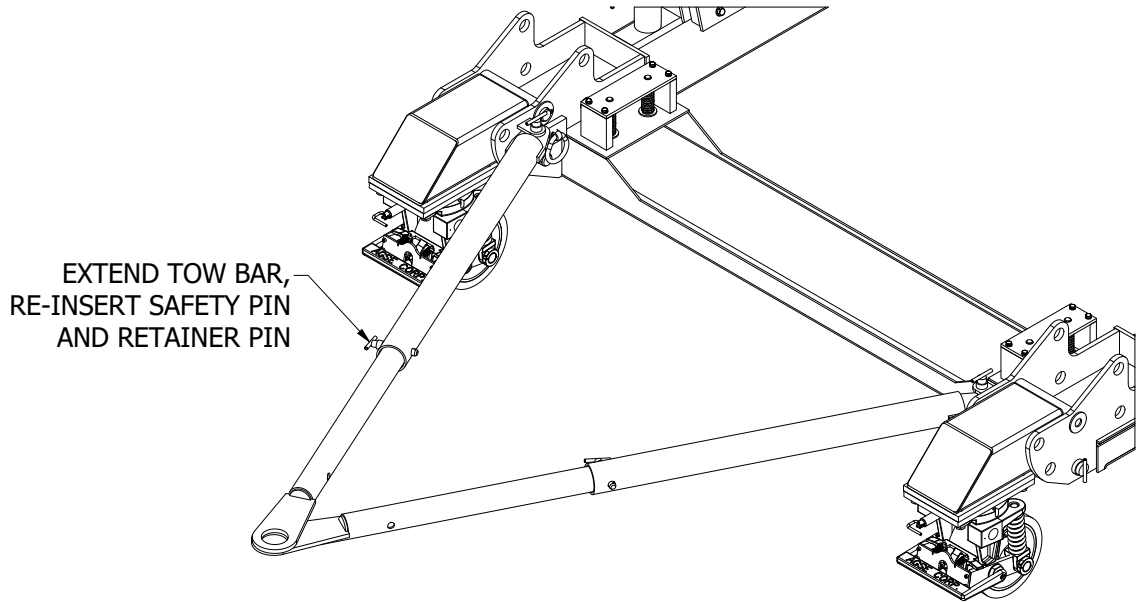

Figure 4.4-5
- 7). Bring the two tow bars together to attach to a tow vehicle. (Figure 4.4-5)